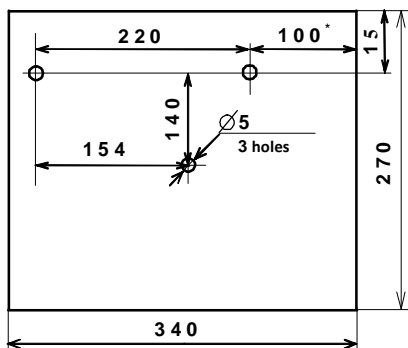

Figure. 1
2.2.2 Attach the RIP on the wall at a convenience place. The overall and mounting dimension of the RIP are shown in Figure 1.